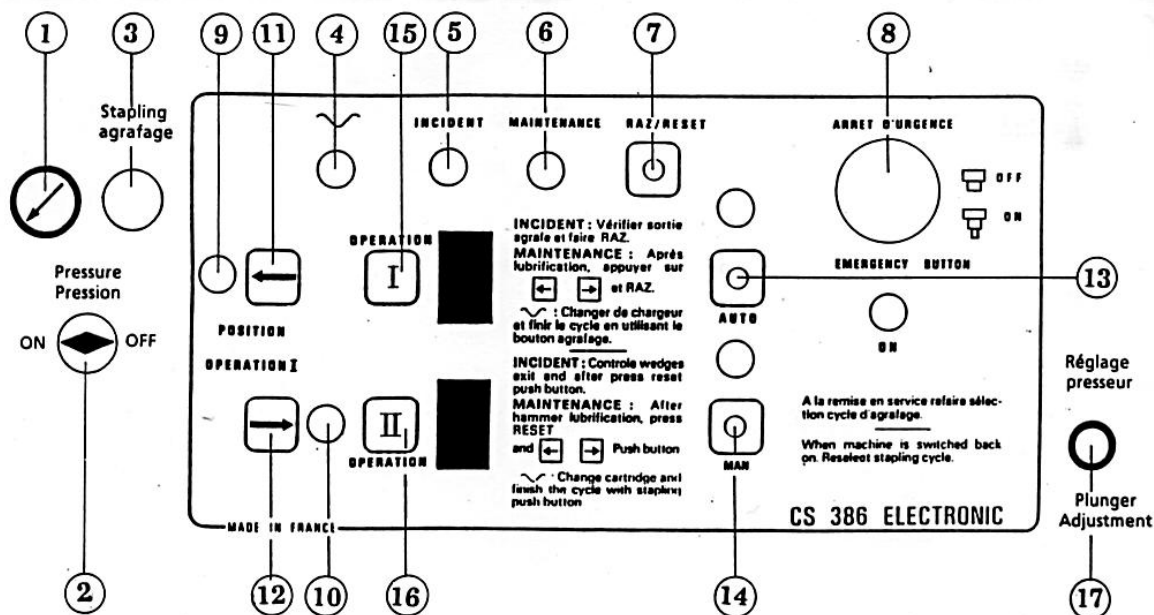

FIGURE 3
- b) Press the stapling pushbutton once (keyboard FIGURE 3 - item 3).